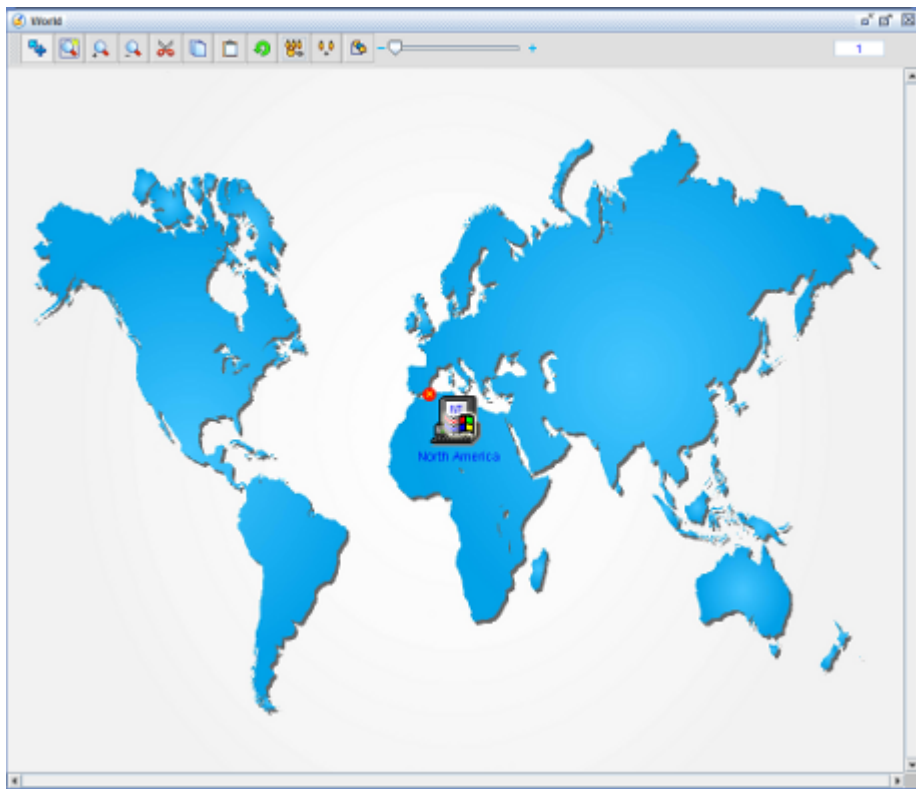

Figure 25: World Level Map
- *Figure 25: World Level Map*